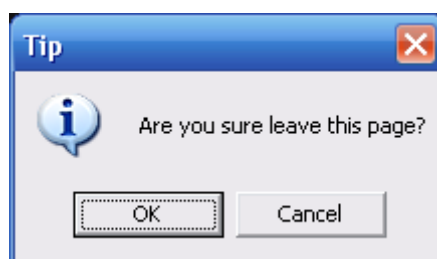

Figure 7-16
4) When you switch from Monitor to Search or Configuration, system pops a dialogue box asking you leave current interface or not. See Figure 7-16. Click the OK button, system will close current monitor window. For example, you click the Config button when you are monitoring, system pops up a following dialogue. Click the OK button, system closes current monitor interface and open the configuration interface. The monitor interface appears automatically after you close configuration interface. When you switch from Search to the Configuration interface, system also pops up the same dialogue box for your confirmation. Click OK button, you can see system close playback interface and open the configuration interface. Please note, system will not open the playback interface again after you close the configuration interface.